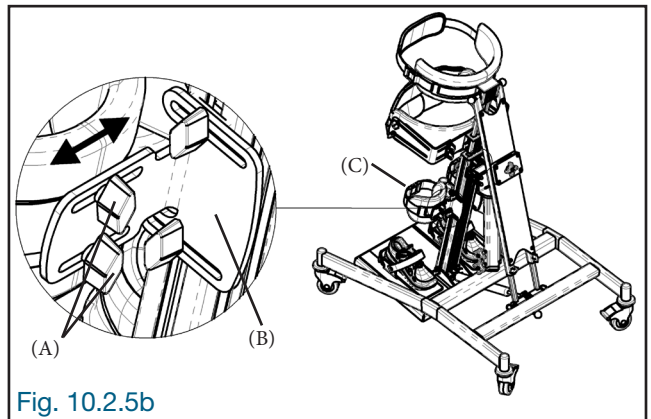

Fig. 10.2.5b
Loosen the locking knobs (A) located at the back of the knee stop support (B). Slide the knee stop (C) to the required position and then tighten the locking knobs (A) firmly (Fig. 10.2.5b).